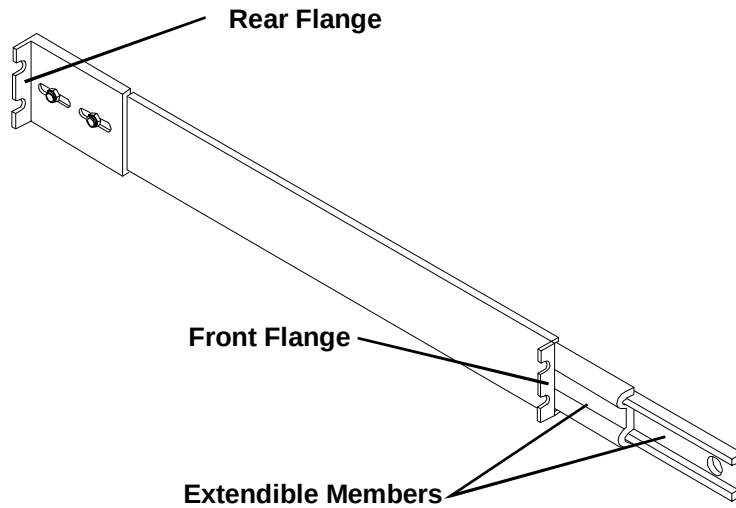

Figure 3-3. Slide Components and Orientation
Slide	Extendible side bracket which is attached to the rack chassis columns on which the NetServer is mounted. Consists of stationary component, and an extendible member (see Figure 3-3). Allows access to the NetServer after it is installed in the rack chassis.
Slide mounting flange	Mounting flange located at either end of the slide (see Figure 3-3).
1. Orient each slide so that the front of the slide attaches to the front column and the rear attaches to the rear column. This ensures that once installed, the slides will extend correctly, toward the front of the rack (see Figure 3-3).
1. Extend the slides until you hear a click, indicating they are fully extended in the locked-out position. Note that the slides do not come apart (see Figure 3-3).